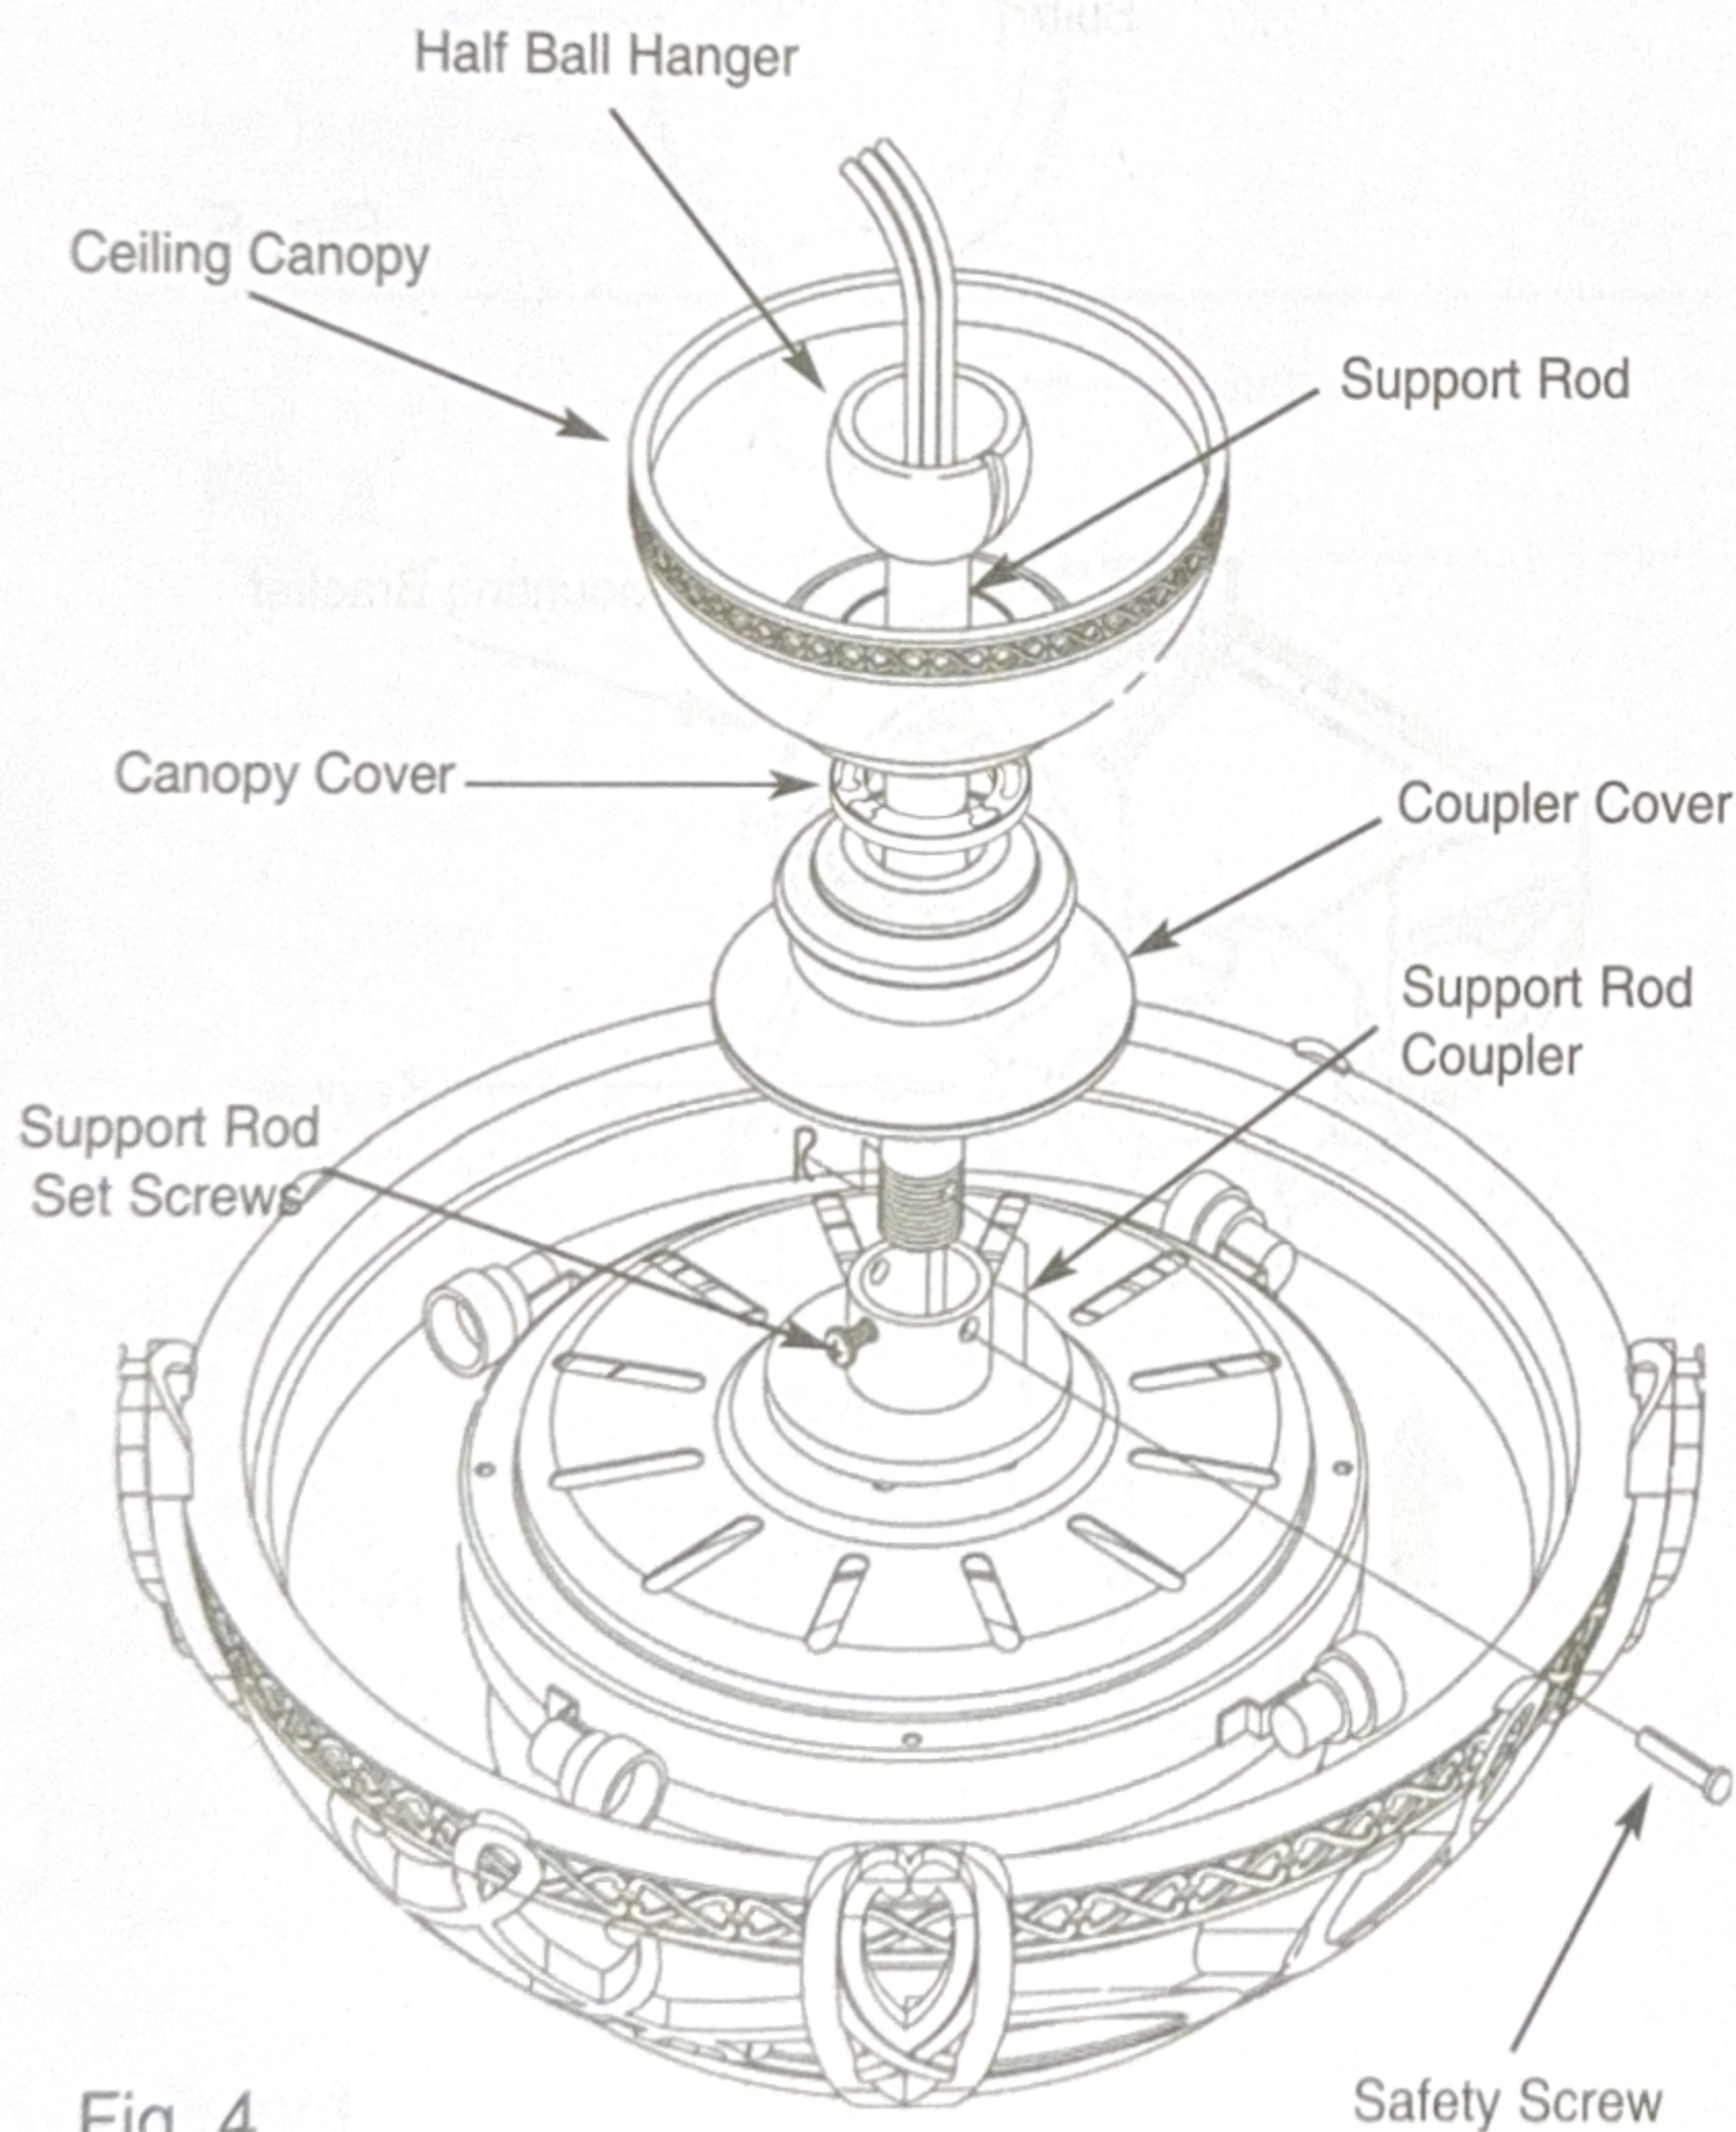

Fig. 4
Loosen the set screws (2) in the support rod coupler located on the top center of the motor housing (*see figure 4*) until the inside channel is clear.
Slide the ceiling canopy and canopy cover onto the support rod, followed by the support rod coupler cover. (*see figure 4*)